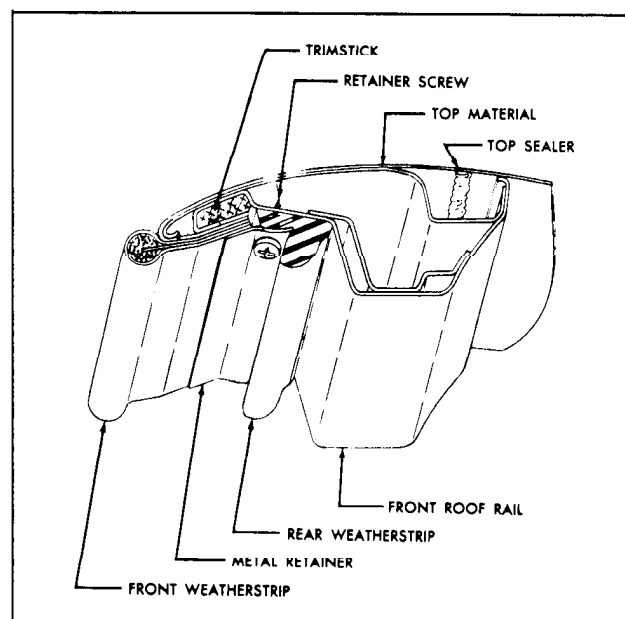

Fig. 15-83 Front Roof Rail Sealing
- At the front of body, raise front roof rail, remove retainers and front weatherstrips, detach top material from front roof rail. (Fig. 15-83)